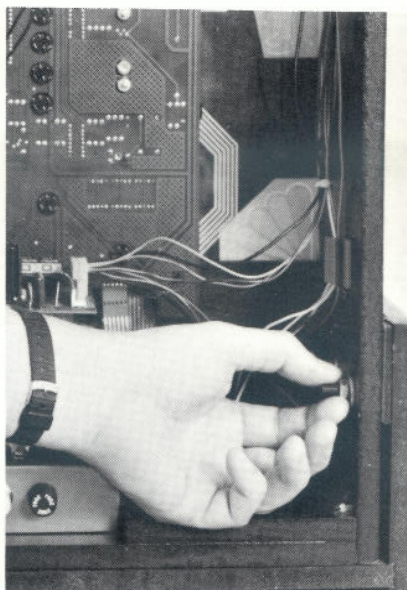

Figure 4. Bolting top to base, with bolts inserted from outside.
- d) Install carriage bolts so nuts are on inside of machine as shown in Figure 4.